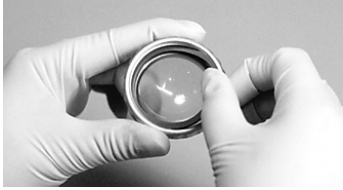

Fig.7
- ① Unscrew the powder case cap, and completely empty the powder case.
- ② Slide back the handpiece release ring, and remove the handpiece from the powder case.
- ③ Wipe saliva and debris off the handpiece with alcohol-immersed cloth.
- ④ Remove the powder case from the coupling, or from the handpiece hose (4-, 3-, or 2-hole type).
- ⑤ Remove the O-ring from the powder case cap, plastic powder case cover, and thin gasket. Clean the powder case cover, O-ring, thin gasket and the serrated powder case cover ring. (Figs. 7 and 8)